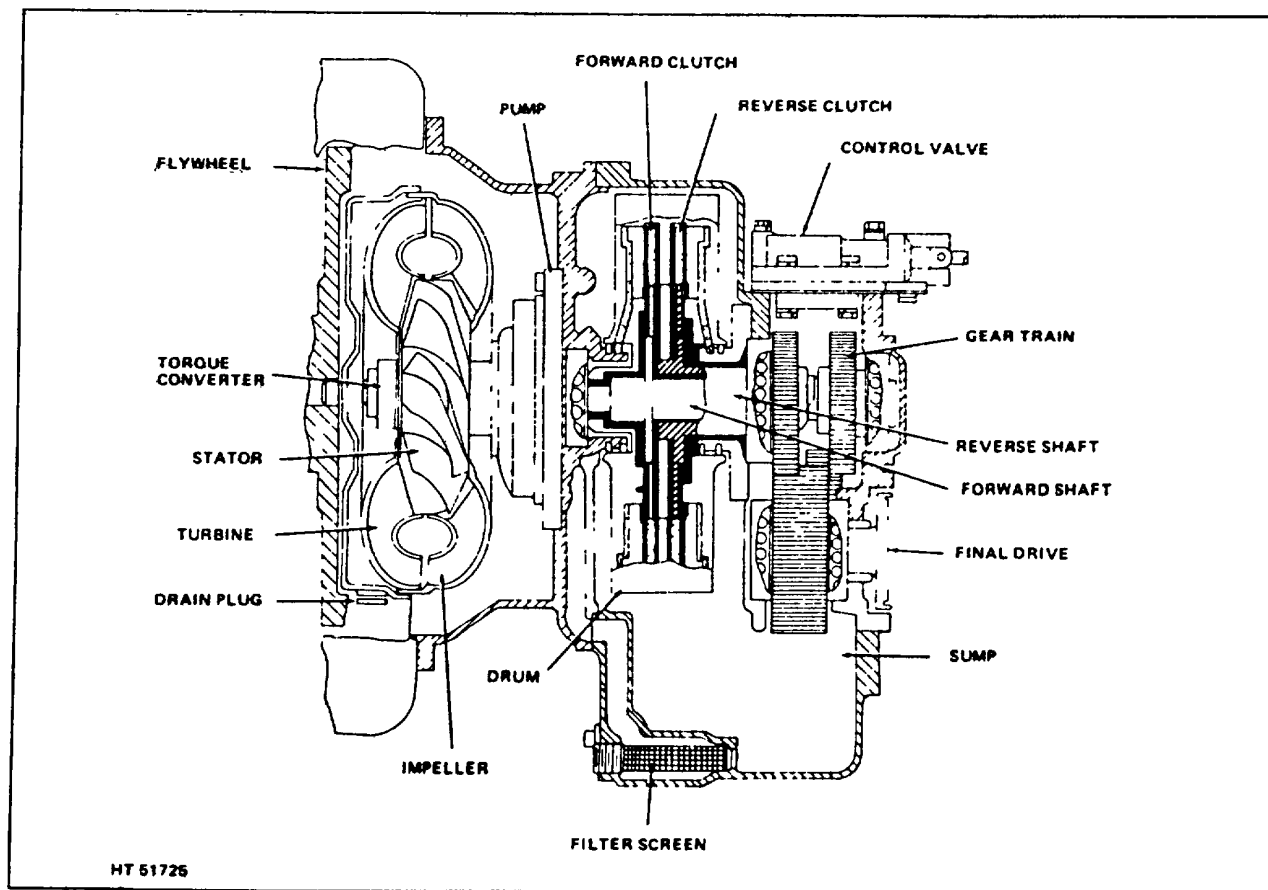

Figure 1. Power Shift Torque Converter Drive
**TORQUE CONVERTER:** The torque converter is composed of three members: The impeller or drive member, the turbine or driven member, and the stator or reaction member. The impeller forms the outer shell of the converter, and the turbine and stator operate within the impeller but turn free of the impeller. The complete unit is mounted on the engine flywheel and always turns at engine speed. (Refer to Figure 1.)